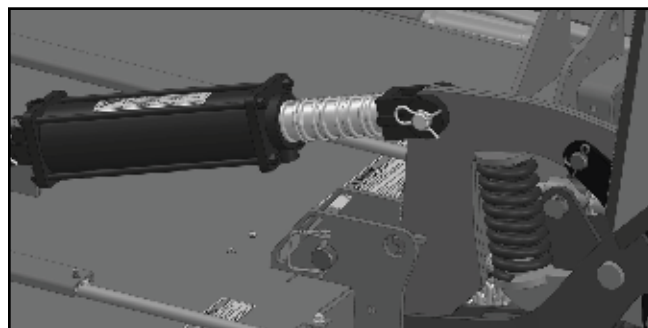

Figure 4. Transport Lock Pin In Operation Position
5. To lower cutter for operation, extend hydraulic cylinder to raise cutter. Move lock pin from lock position to storage position (Figure 4).